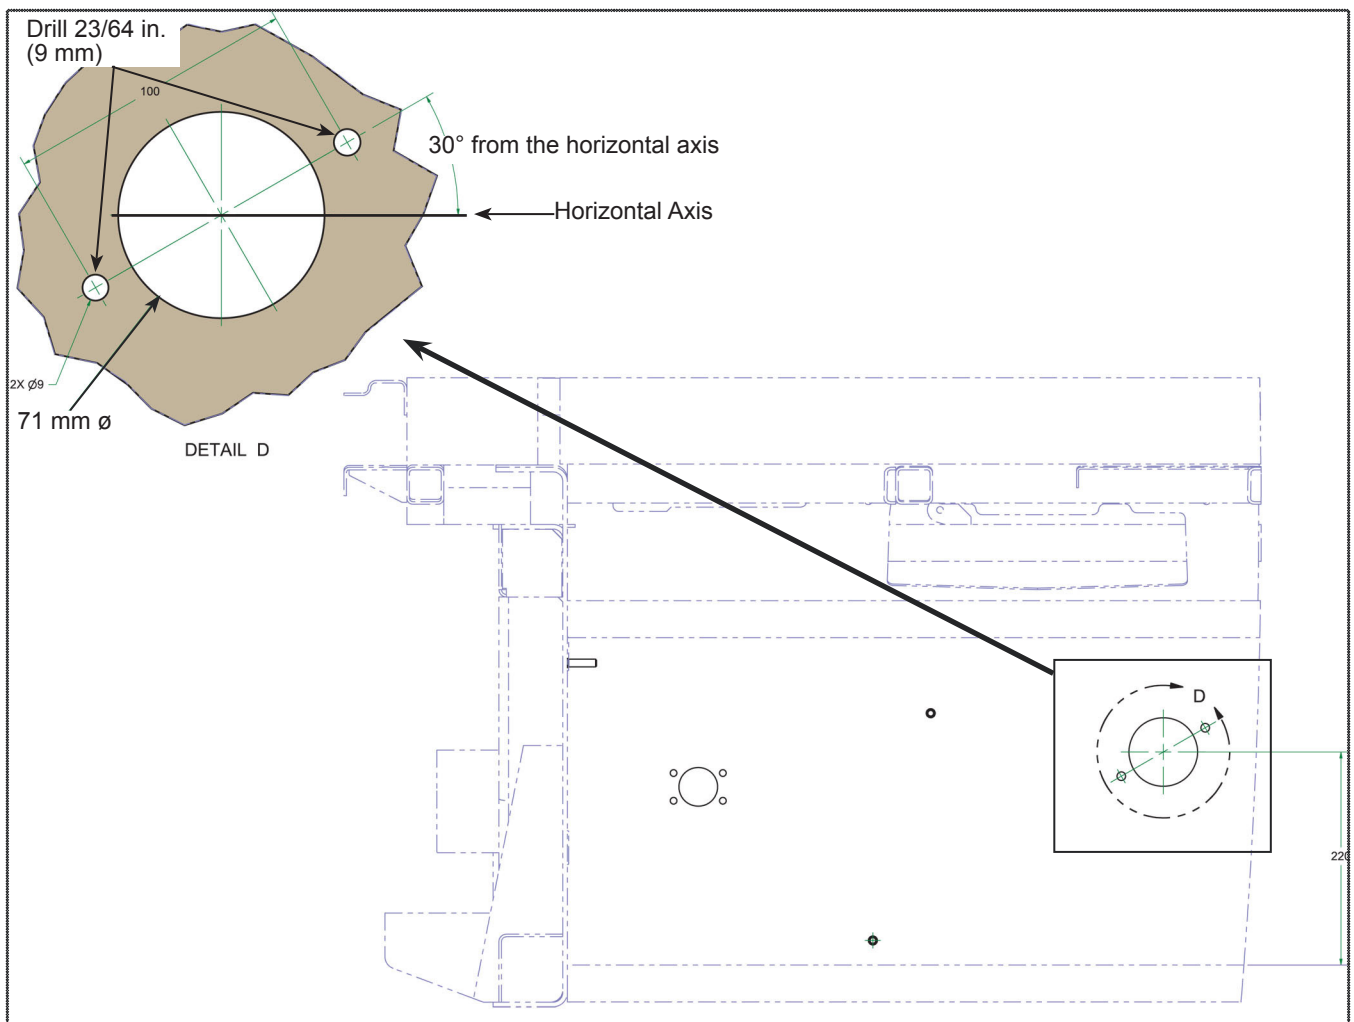

Figure 4 - Dimensions for the Modified Hole and Locations of the Attachment Holes
- 1.8. The size of the existing hole is 0.79 in. (20 mm). This must be enlarged to 2.8 in. (71 mm) See Figure 4.
1.9. Drill two holes at 30 degrees from the horizontal axis of the 71 mm hole, using the new battery cut-off switch (N55066-01) as a drilling template. See Figure 4.